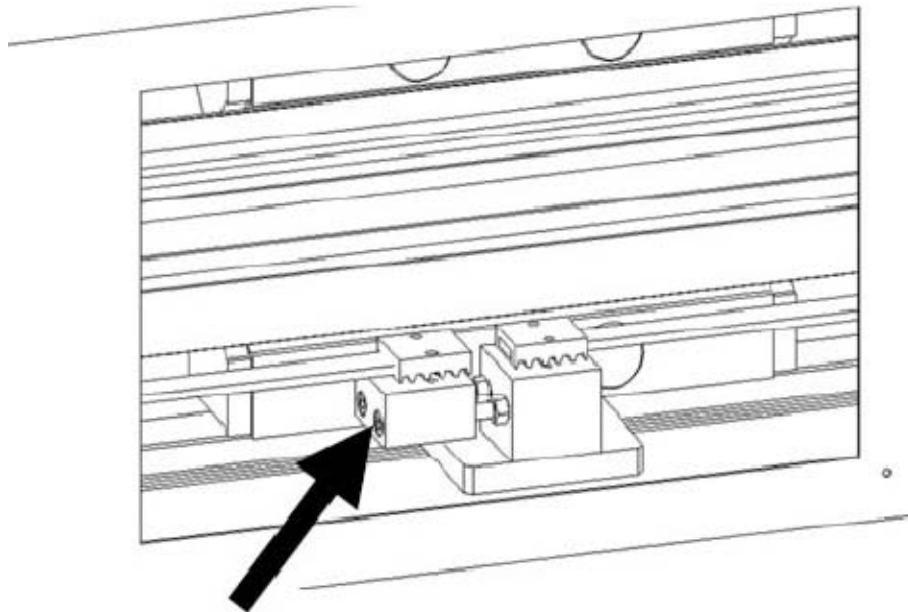

Fig. 5-23 Loosening the belt tension bolts
3. See Figure 5-23. Loosen the belt tension bolts.